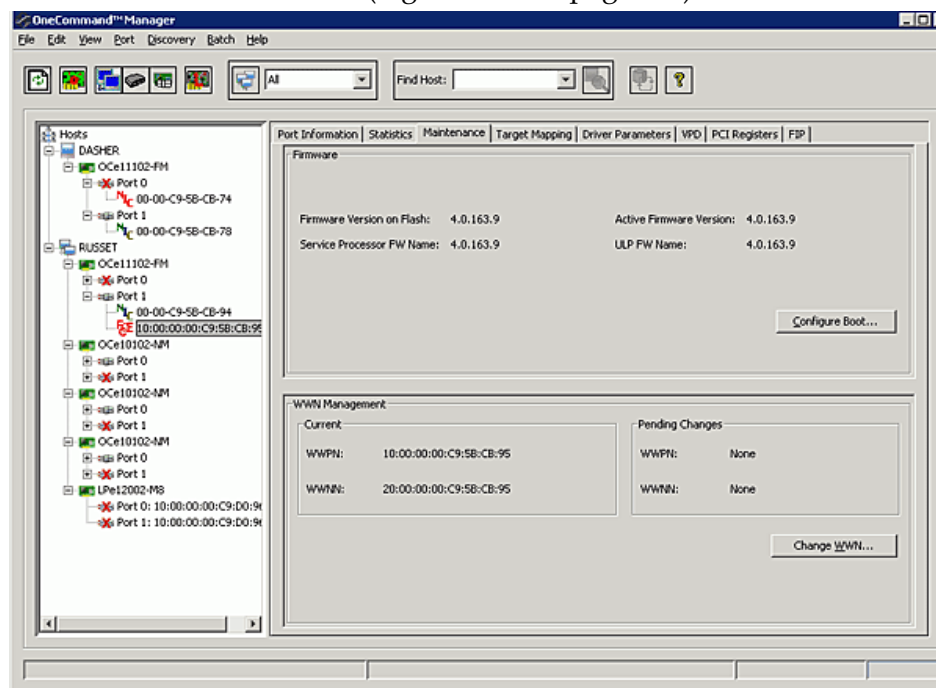

Figure 8-17 FCoE Maintenance Tab
Use the Maintenance tab (Figure 8-17 on page 139) to view firmware information. You can also configure boot from SAN and change WWPN and WWNN information for the selected FCoE function. (Not available in read-only mode.)
3. Select the **Maintenance** tab (Figure 8-17 on page 139).